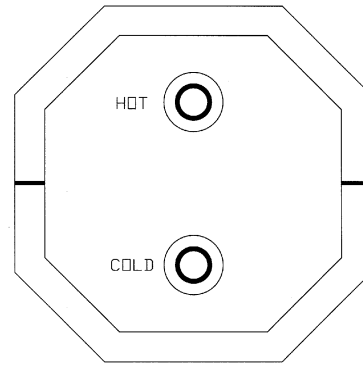

Figure 4
A. Water connections are made at the rear of the water heater. Refer to Figure 4. Connect the hot and cold water lines to the 1/2" female pipe fitting provided on rear of tank. These fittings are marked "HOT" and "COLD". NOTE: Inside each fitting is a plastic fill tube. Its purpose is to enhance water circulation. **DO NOT REMOVE PLASTIC FILL TUBE.**